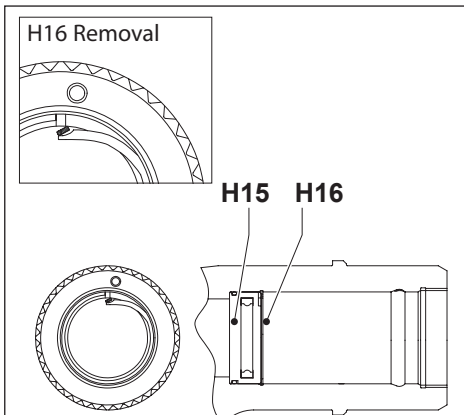

Fig. 23
**NOTICE** In the next step, the tapered end of the retaining ring (H16) must be aligned with the slot in the cylinder bushing (H15) to allow a seal pick tool to fit behind the retaining ring. If needed, use a screwdriver to rotate the ring as required. See Fig. 23.